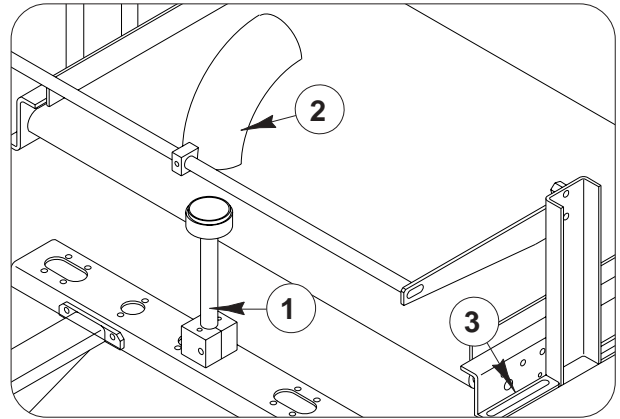

Fig. 3.7
- Adjust the height of the ejection plates (*Part 1 Fig.3.7*)
- Replace and/or adjust the ejection curves (*Part 2 Fig.3.7*)
- Adjust the discharge conveyor (*Part 3 Fig.3.7*)